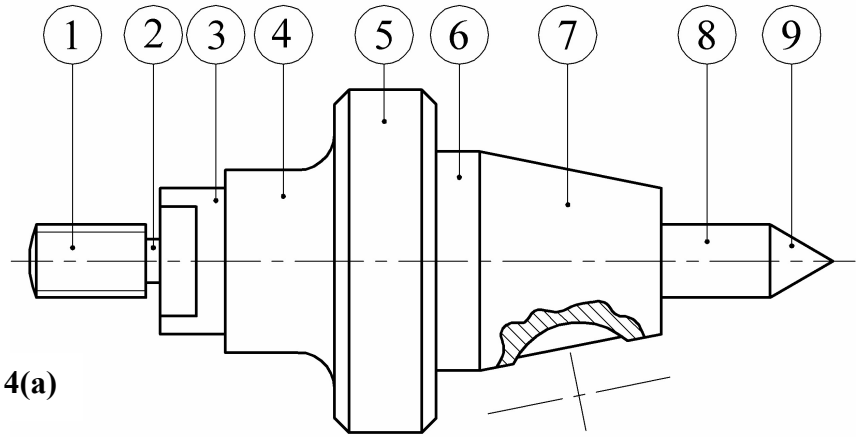

Fig. 4(a)
4. (a) Using the data table below make a fully dimensioned drawing of the machine part in Fig. 4(a), showing all specifications.